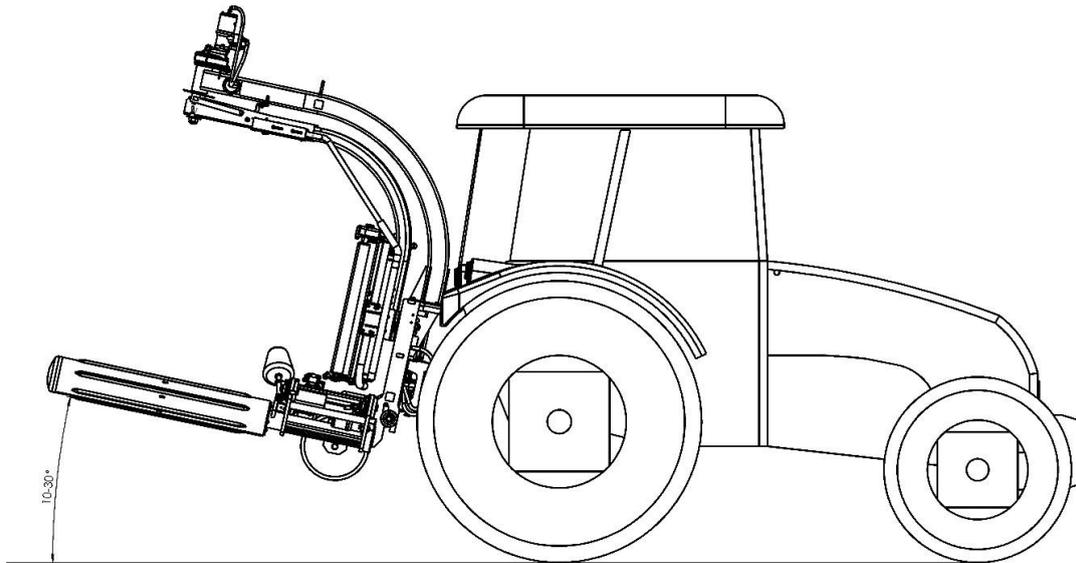

Figure 19. Transport position
3. Lift the wrapper to the transport position (Fig. 19).